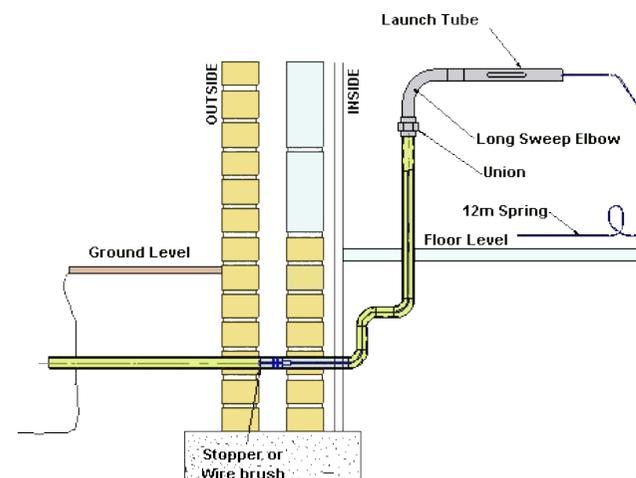

Figure 42 - Spring attached to stopper/wire brush
16. Fit union with long sweep elbow and launch tube at the service entry end (Figure 42 - Spring attached to stopper/wire brush).
Note: If unable to probe service, fit elbow wire brush to the end of the spring and clean the service see Figure 42 - Spring attached to stopper/wire brush.